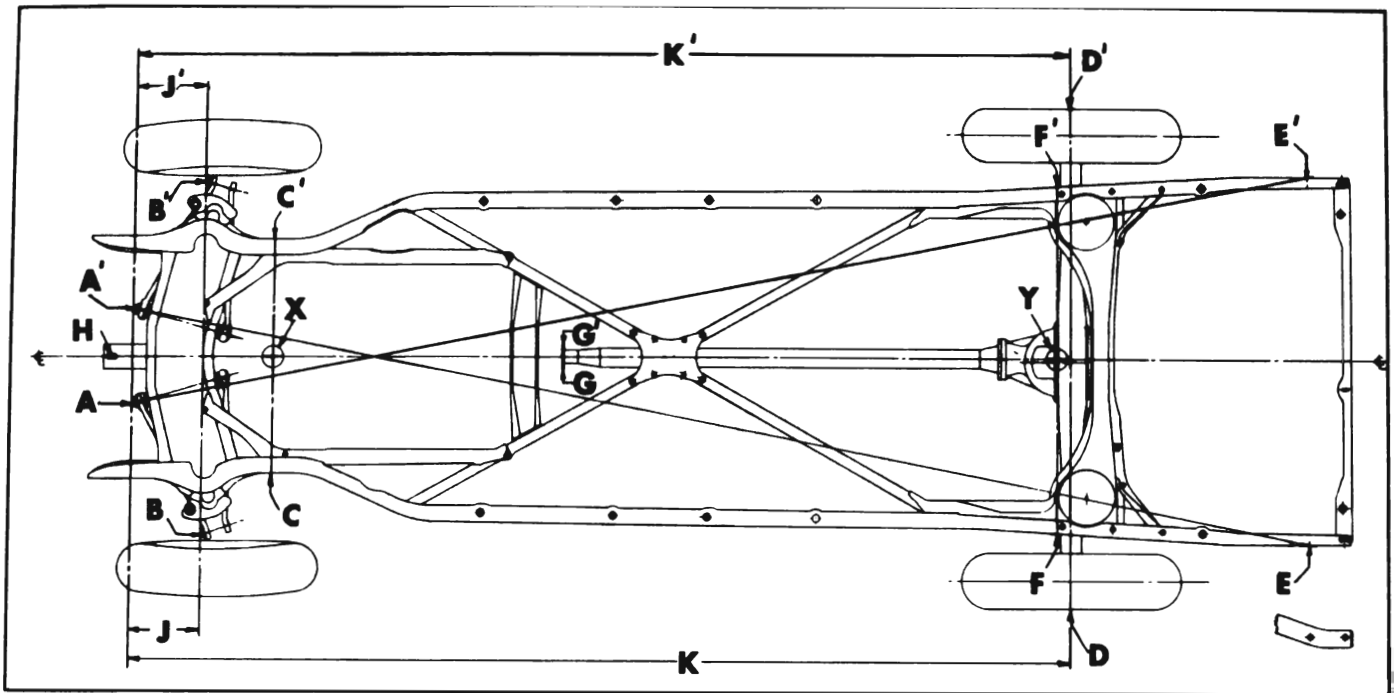

Figure 9-2—Checking Points for Frame and Suspension Alignment
1. Using a plumb bob, extend the following points to the floor and mark where point of plumb bob touches floor, as shown in figure 9-2.